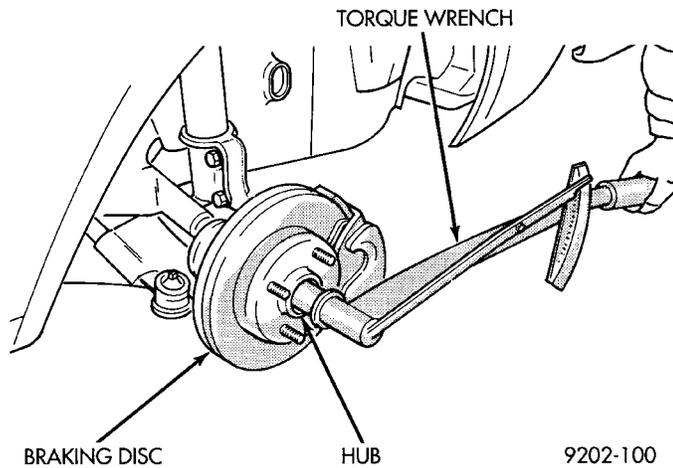
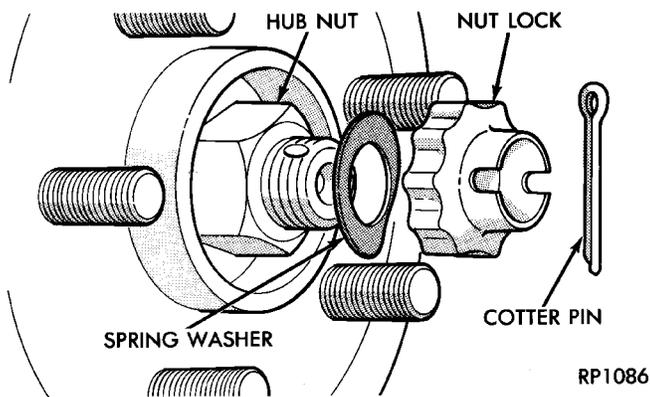
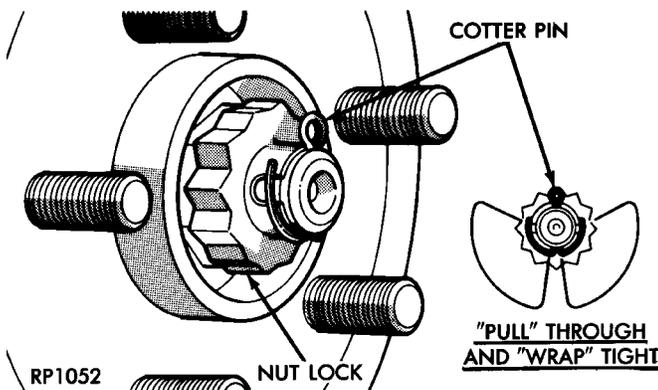

Fig. 29 Torquing Front Hub Nut
Fig. 30 Spring Washer, Nut Lock, and New Cotter Pin
Fig. 31 Cotter Pin Correctly Installed
(10) With vehicle brakes applied to keep braking disc from turning, tighten hub nut to a torque of 183 N·m (135 ft. lbs.) (Fig. 29).
(11) Install front wheel and tire assembly. Install front wheel lug nuts and torque to 135 N·m (100 ft. lbs.).
(12) Lower vehicle.
(13) Install the spring washer, hub nut lock, and new cotter pin (Fig. 30). Wrap cotter pin prongs tightly around the hub nut lock (Fig. 31).
(14) Set front Toe on vehicle to required specification. Use procedure listed under Wheel Alignment, in the Front Suspension Service Procedures section of this service manual.